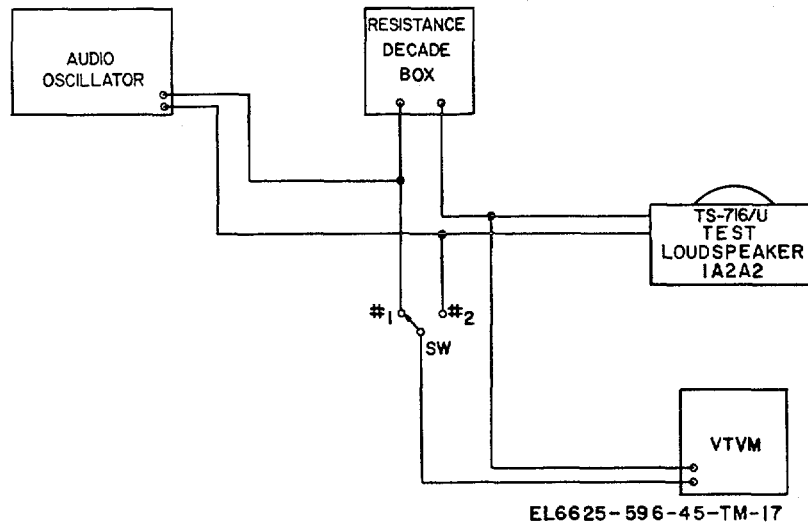

Figure 6-2. Driver impedance test setup.
- a. Connect the equipment as shown in figure 6-2.